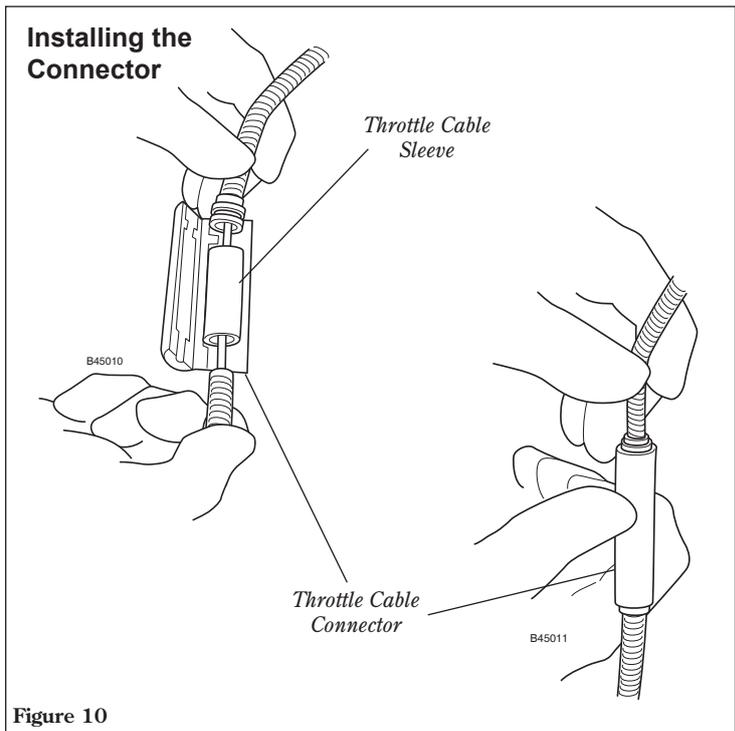

Figure 10
6. Close the throttle cable connector using hand pressure. See Figure 10.